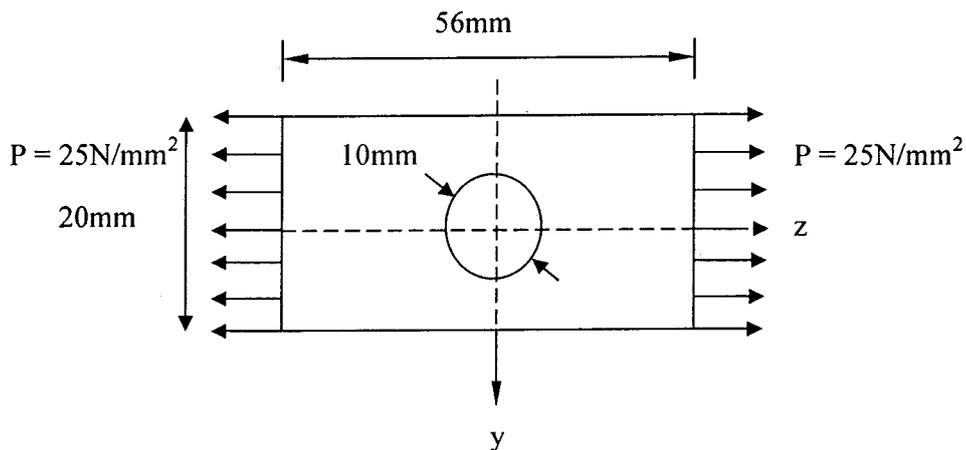

Figure 8
- (b) A plate with a hole is subjected to tension,  $p = 25.0\text{N/mm}^2$  as shown in Figure 8. It is a 2D plane stress problem. The plate is modeled with linear four-noded rectangular elements and three-noded triangular elements. Given Elastic Modulus  $E = 7.0 \times 10^4 \text{N/mm}^2$ , thickness,  $t = 1\text{mm}$  and Poisson ratio,  $\nu = 0.25$ .